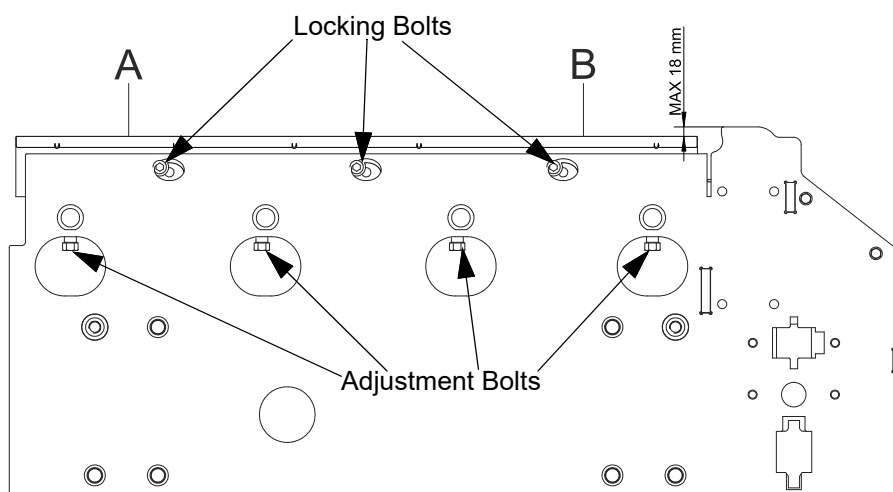

FIG. 5-6
**See Figure 5-6** To adjust the bed rail, loosen the locking bolts. Then, using the adjustment bolts, adjust the bed rail so the measurements A and B are the same. The distance between the bed rail and cant stop should not be larger than 18mm. When the adjustment is done, tighten the locking nuts.